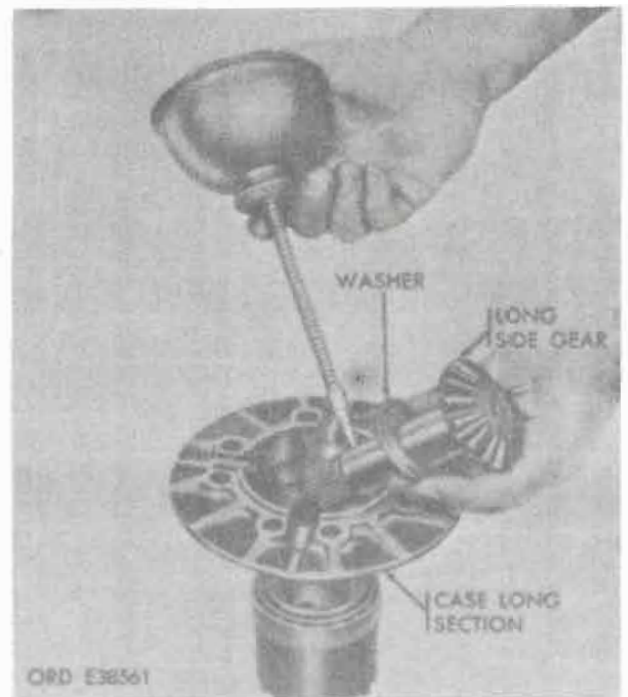

Figure 12-38. Lubricating and installing long side gear and thrust washer.
c. Lubricate backface of long side gear and both sides of washer, and install long section, using OE as a lubricant (fig. 12-38).